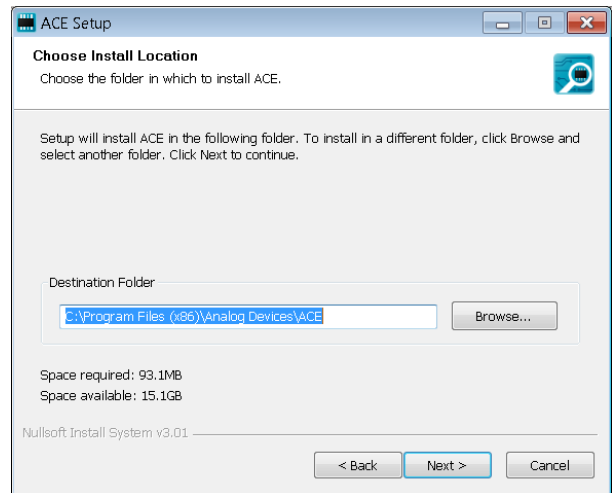

Figure 6. Choose Installation Location
6. Click **Browse ...** to choose the installation location and then click **Next >** (see Figure 6).